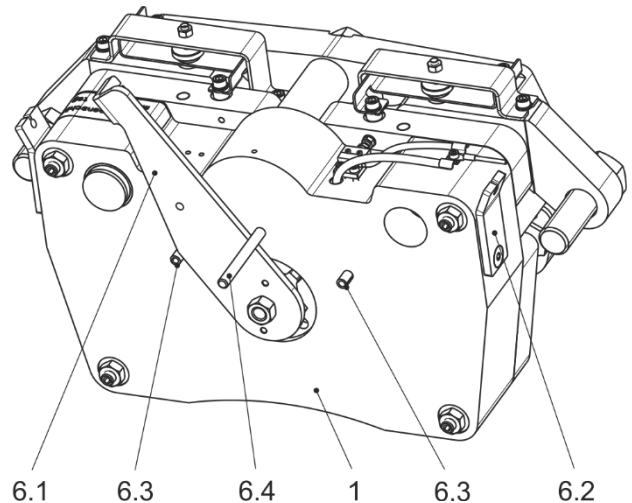

Fig. 9
1. Mechanically release the brake using an auxiliary device and lock the hand release lever (6.1) via the bolt (Item 6.4 / *mayr*® article no. 8277826), which is inserted into the bore Ø10 on the back of the coil carrier (1) (Fig. 9).